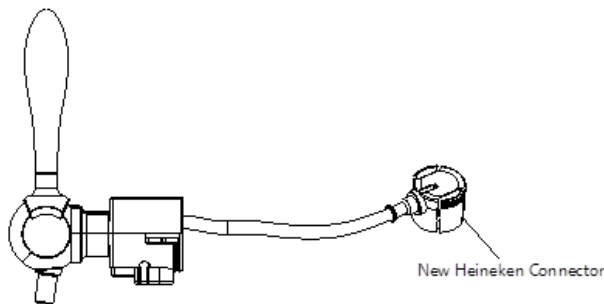

Figure 5 (For 5L keg only)
5. Align the beer outlet valve device vertically with the connecting part of the beer keg in the middle of the top surface of the beer keg, and immediately press it into the beer keg. When you hear a click, it indicates that the wine outlet device has been correctly fixed on the beer keg (as shown in Figure 5 below). After installing the valve device, put the beer keg into the refrigeration barrel of the machine.
6. FOR A 5L KEG : Replace the beer tube with the adapter (New Heineken connector) to the device's faucet. Then, connect the adapter to the beer connector of tape (Figure 5).